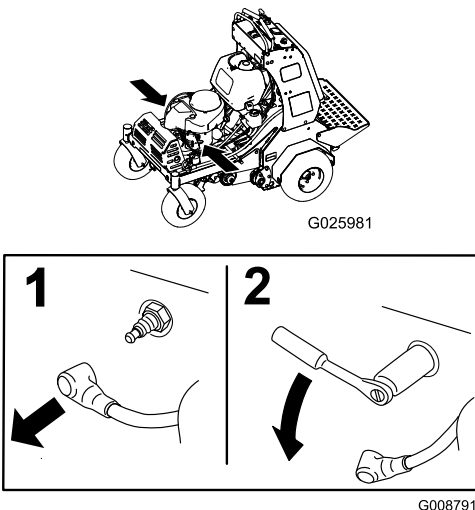

Figure 40
2. Remove the spark plug as shown in Figure 40.